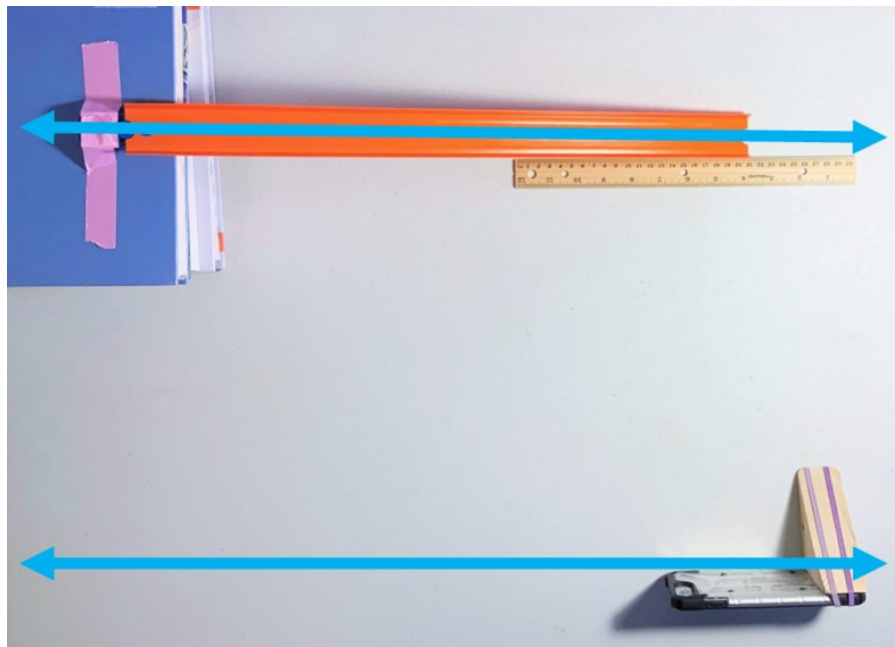

Fig. 3: Place the camera on the table facing the bottom of the track. The camera, the track, and the ruler must all be parallel to each other.
12. Make sure the camera is not angled relative to the track or the motion data will be inaccurate. The camera and the track should be parallel to each other (see Fig. 3).